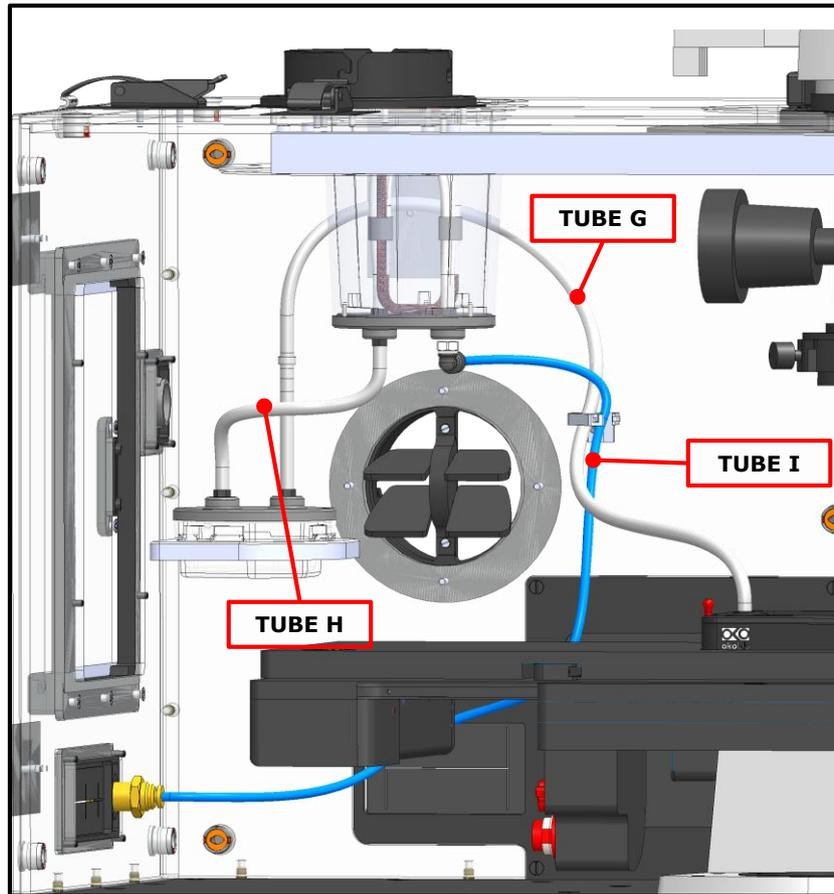

Figure 70. Tubing connection inside the Enclosure with HM-VF.
Tip ► This component allows recovering the condensation water (HM-VF) or the water accumulated into the permeable membrane tube (for HM-VF) in order to prevent the water reaches the chamber incubator. For example, in the case of HM-VF, when you switch your gas mixer off, the gas stops flowing through the permeable water membrane for a little time but the membrane continues to permeate the water and its little tube fills. When you switch your gas mixer on again, the stored water is recovered into the water trap and it does not reach the chamber incubator. The Water Trap is directly connected to the Humidity Module by the TUBE H (for HM-VF, see Figure 70)
- H. **HM-VF tubing connection inside the Enclosure.** If you have purchased also HM-VF, you have to connect the tubes between the Water Trap and Humidity Module (Tube H), between the Water Trap and the Chamber Incubator (TUBE G) and between the Input of the gas coming from the Gas Mixer and the Humidity Module (TUBE I). See Figure 70.